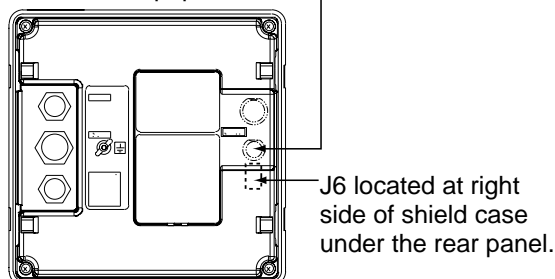

Figure 3-7 Display unit, rear view
6. Plug in the XH connector at the end of the MJ connector into J6 on the DU Board. (See Figure 3-7 for location.)